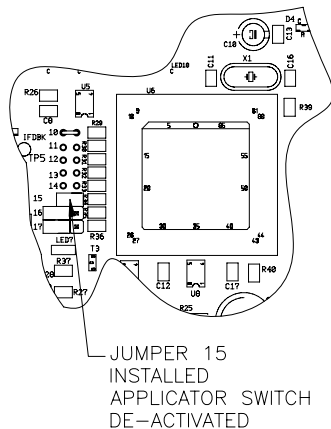

Figure 29: Jumper Location - Applicator Switch Lockout
2. Place the jumper across the two (2) pins at location 15 on the main PC board (see Figure 29).